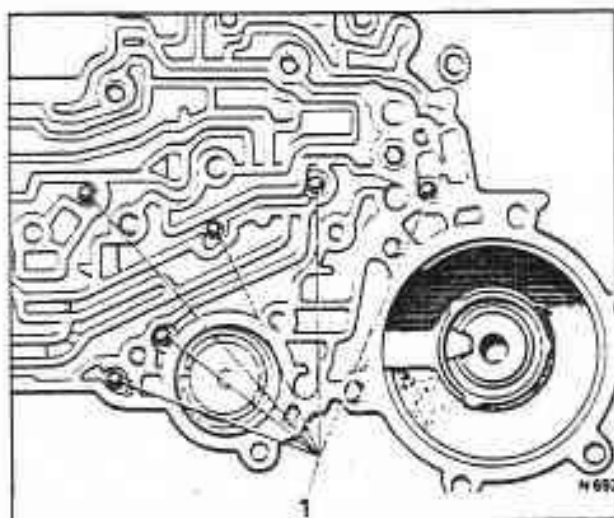

Fig. T14-5 Location of check balls — transmission case
7. Remove the six check balls from the cored passages in the transmission case (see fig. T14-5).